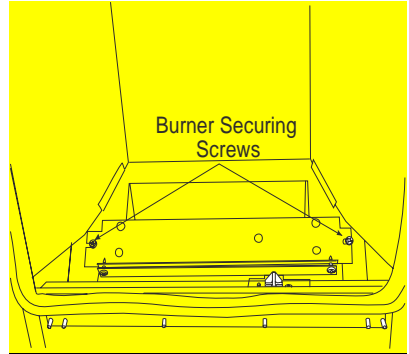

FIGURE 31 BURNER SECURING SCREWS
4. Remove the main burner. See FIG. 31